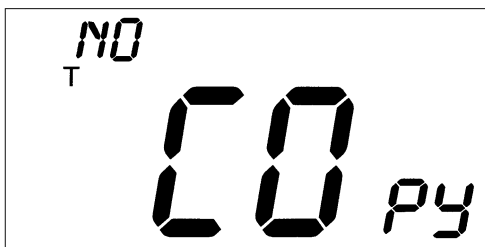

fig. 4 — Copy Command Display
11. The Copy command can be used to copy the previous day's schedule if the schedules are the same. The copy command becomes available after all the occupied periods are programmed in a day. Use the UP ARROW to change the copy command to YES. Use the DOWN ARROW to change the copy command to NO. Press the Mode button when the choice has been made. See Fig. 4.